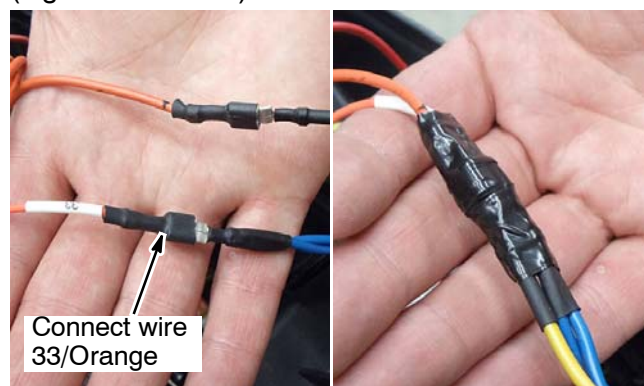

Fig. 14
13. Connect wire 33/Orange from the new wire harness to the blue charger interlock wires as shown below (Figure 14). Re-wrap wire connections with electrical tape. Re-secure the machine harness wires with cable-tie.